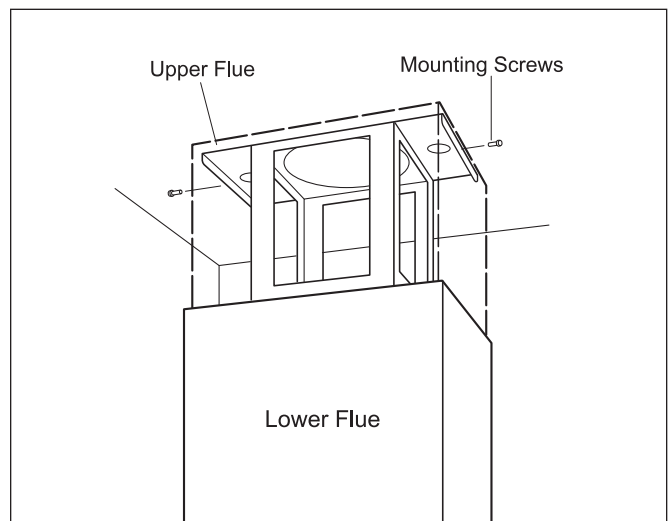

Figure 2-18 Upper Chimney Flue Mounting
6. Secure the upper telescopic chimney flue section to the upper support frame. (See Figure 2-18)